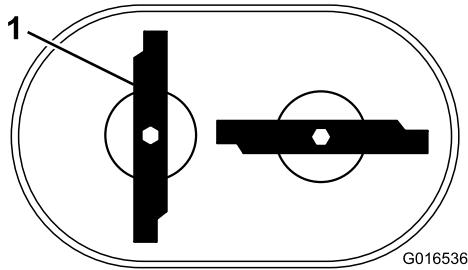

Figure 47
**Note:** The blades should be perpendicular, forming an inverted "T" as shown in Figure 47.